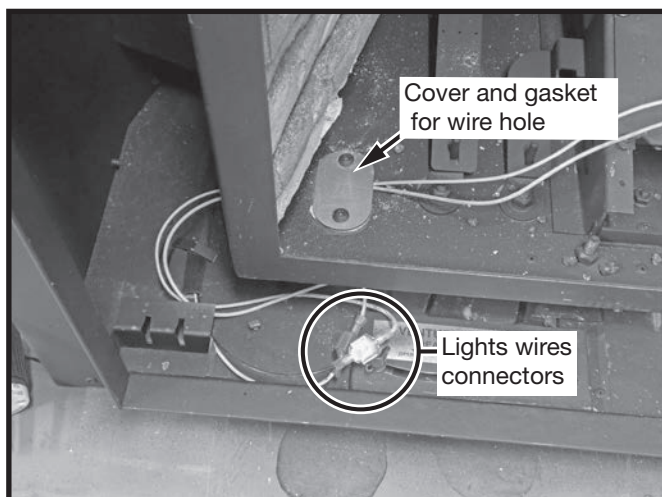

Figure 71: Lights connectors and hole cover.
3. Connect the leads from the burner tray to the connectors located on the firebox floor (Figure 71).
4. Once leads are connected, place the small cover and gasket over the hole on the firebox floor and affix with two screws (Figure 71).